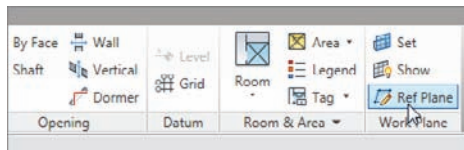

FIGURE 2.2 The Ref Plane command is on the Home tab's Work Plane panel on the Ribbon.
3. On the Work Plane panel of the Home tab, click the Ref Plane button (all the way to the right), as shown in Figure 2.2.